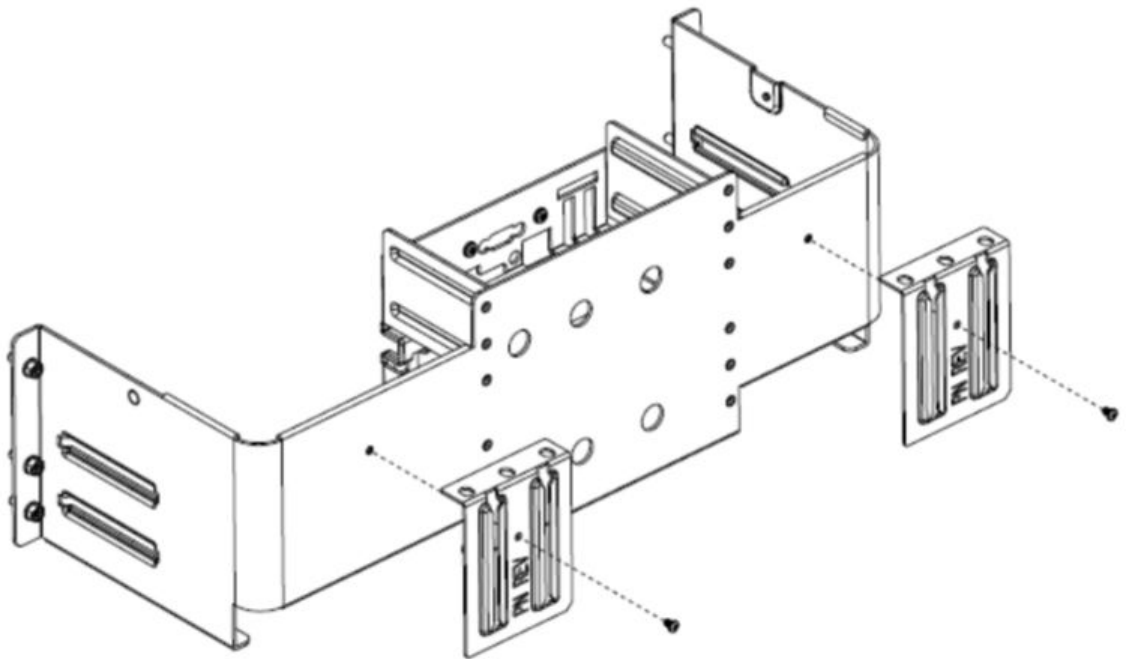

Figure 244. Removing the rail end brackets from the shipping bracket.
4. Remove the screws holding the rail end brackets to the shipping bracket as shown in Figure 244 on page 331